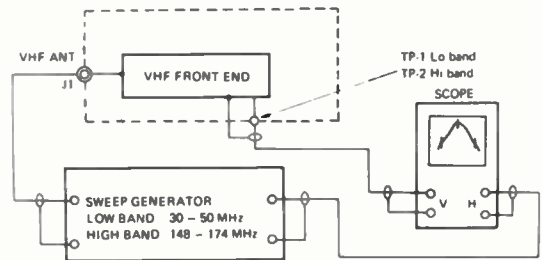

FIGURE 5. VHF LOW/HIGH BAND RF TEST EQPT. HOOK UP
Step 1: Connect the instruments as shown in Figure 5.